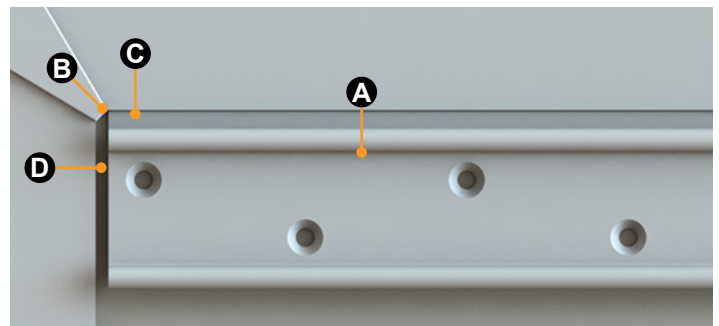
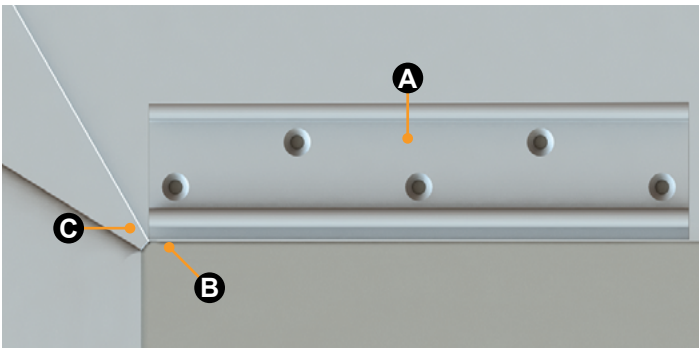

Fig.8
Fig.9
**NOTE:** If mounting the Solera Slide Topper access plate on the T-molding, see "Installing Solera Slide Topper Access Plate" section (Fig.9), the awning rail must be a minimum of 4 ½" to 7 ½" maximum above the T-molding of the slide room the Slide Topper will cover. The awning rail must be level and parallel with the top of slide room T-molding of the unit.
1. Install the access plate below the T-molding (Fig.8) or on the T-molding (Fig.9).
**NOTE:** If installing the slide topper access plate on the T-molding, see "Installing Solera Slide Topper Access Plate" section (Fig.9), use the first extrusion from the top of the extension bracket method (Fig.11A).